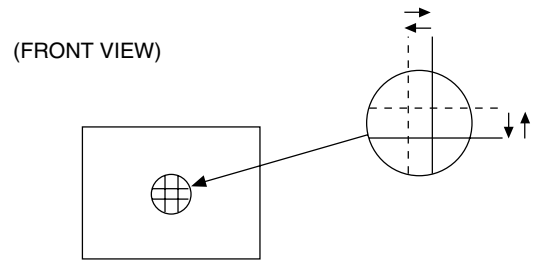

Fig. 13
2. Using 4-pole convergence magnets, overlap the red and blue lines in the centre of the screen (Fig. 13) and turn them to magenta (red/blue).